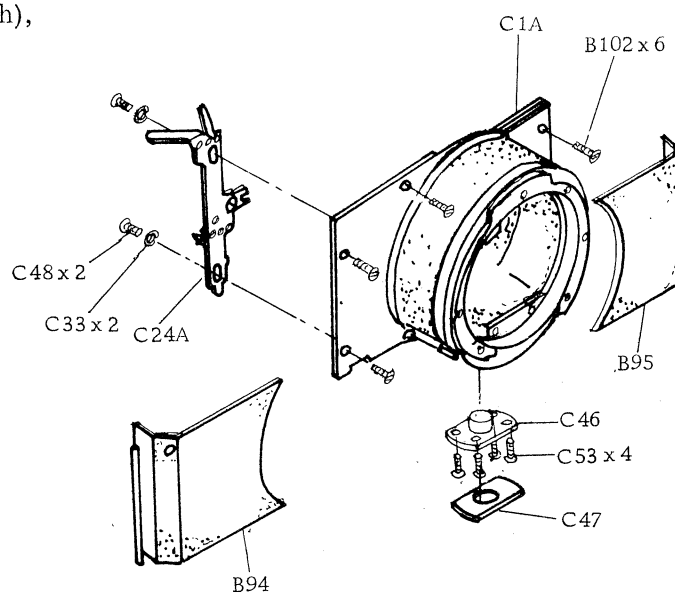

Fig. 3
- B. Peel off the leather cover (C47) from the tripod socket unit. Remove the screws (C53, 4 each), and remove the tripod socket (C46). (Fig. 3)
(C24A). (Fig. 3)